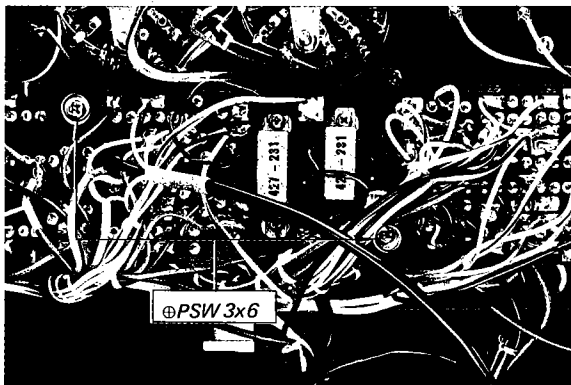

Fig. 2-7. PC board removal
2. Remove the two screws (⊕ PSW 3×6) securing the PCB to the front subchassis as shown in Fig. 2-7.